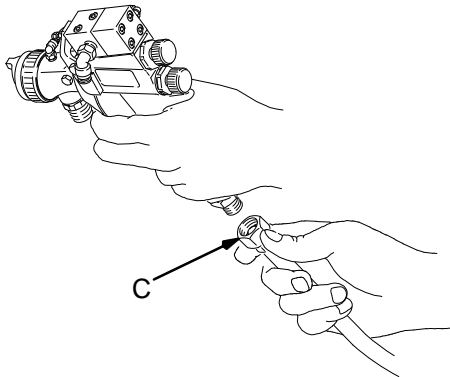

Fig. 24 02800
- B. Disconnect the air supply line (C). See Fig. 24.